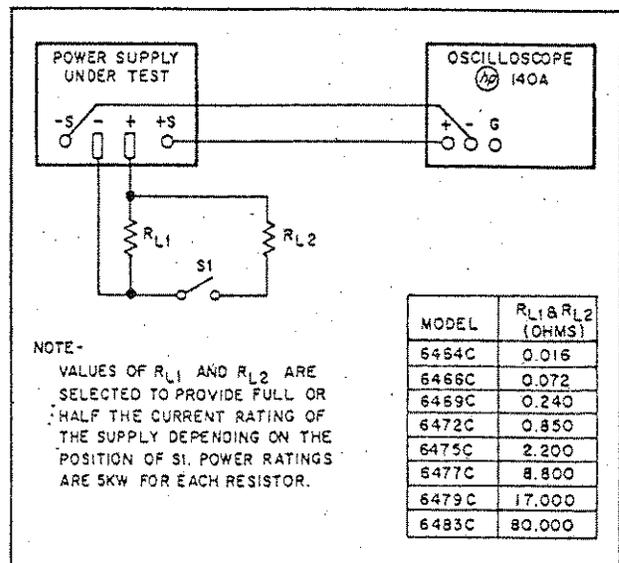

Figure 5-4. Transient Recovery Time Test Setup
- a. Connect test setup shown in Figure 5-4.